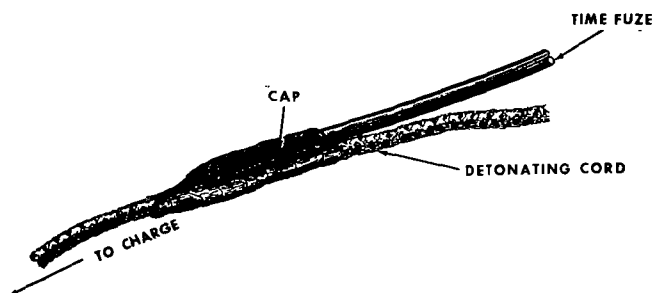

Figure 112. Fastening blasting cap to detonating cord.
a. Detonating cord is detonated by the use of either an electric or nonelectric blasting cap. The cap is taped or tied securely to the detonating cord (fig. 112) or fastened to the cord with a detonating-cord clip. The blasting cap must be placed with the closed end toward the charge.